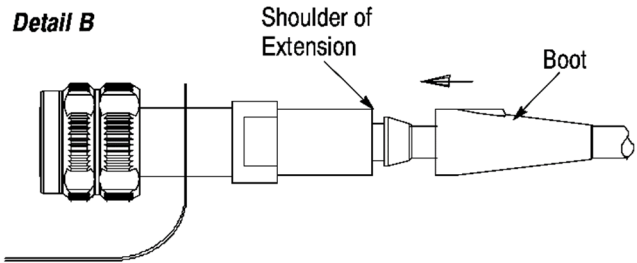

Figure 14
24. Apply the instant adhesive completely around the cone of the extension. See Figure 14, Detail A.
25. Slide the boot over the cone of the extension until it is tight against the shoulder of the extension. See Figure 14, Detail B. Remove any excess adhesive.